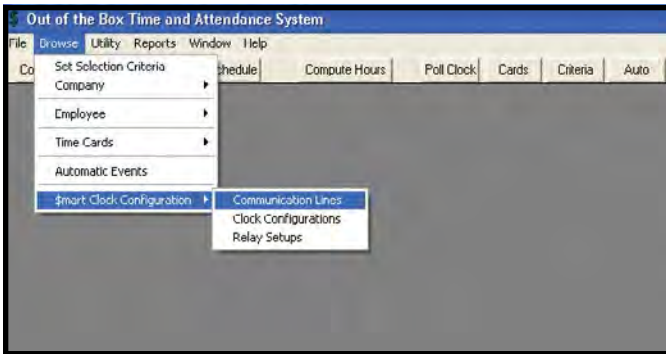

Figure 75. Out-of-the-Box™, Communication Lines
- I. Open the Out-of-the-Box™ program and click “Browse” > “Smart Clock Configuration” > “Communication Lines” (see Figure 75).